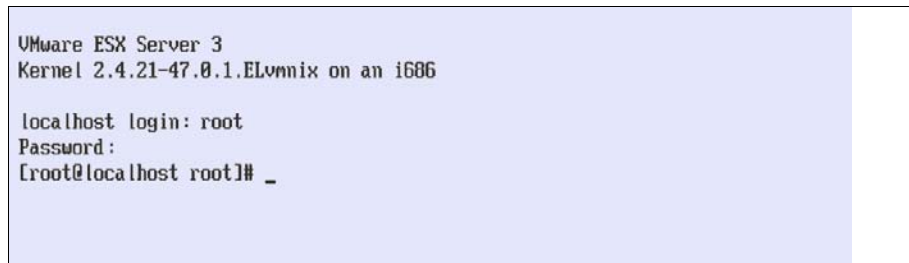

Figure 5-33 Logging on to ESX 3.5 Update 1 service console
13. Press Alt+F1 to get the service console login prompt (Figure 5-33); to return to the startup window press Alt+F11.